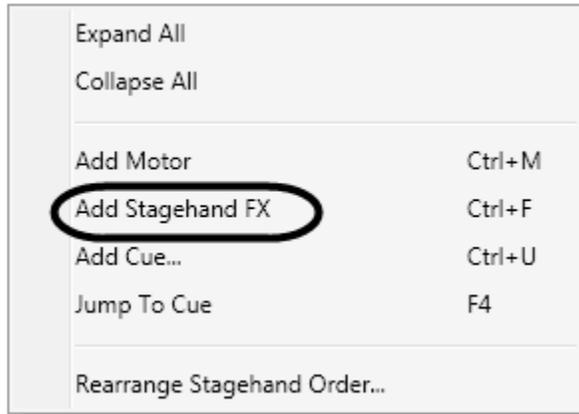

Figure 175
1. Right-click in the **Cue Grid** and select **Add Stagehand FX** (Figure 175).